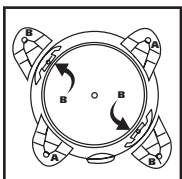

FIGURE 5
4. Take caster feet marked with the letter **B** and place on right front and left rear of tank also marked with the letter **B**. **FIGURE 5.**